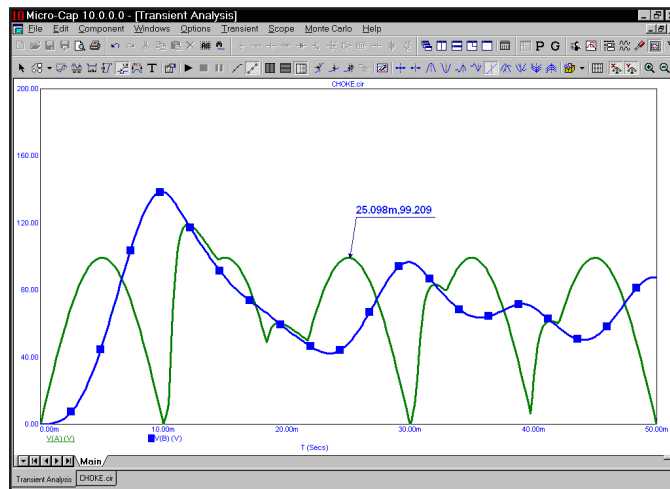

Figure 7-16 Using the Point tag
Click on the  button to activate the Point Tag mode. Click the left mouse button at the second peak of V(B) and drag the mouse. The point tag labels the actual analysis data point nearest the initial mouse click. The tag will track mouse movements. Release the mouse button when the shadow is at the desired spot. The screen should look like Figure 7-16.